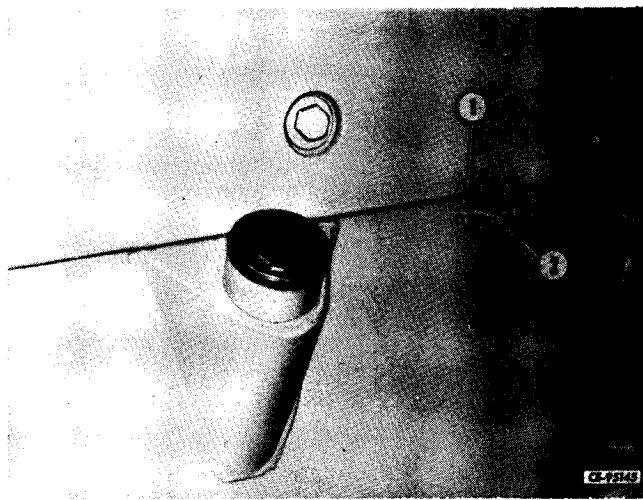

Figure 2-23
Position crankcase drain line (2, Fig. 2-23) into side of fuel tank. Install and tighten cap screws and nuts (1).